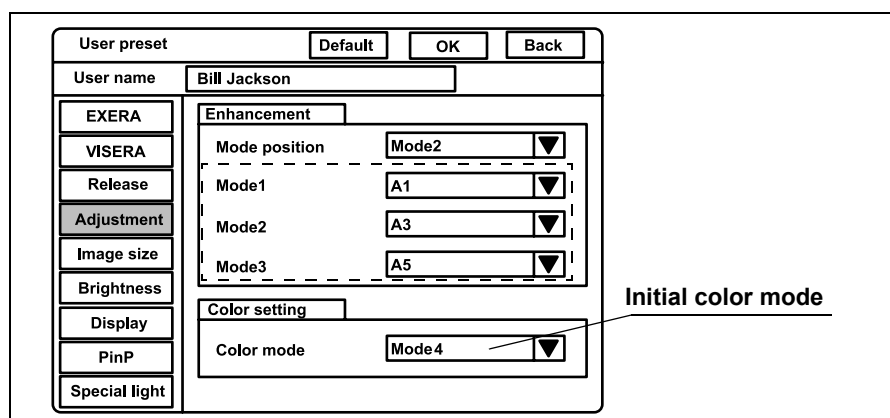

Figure 9.22
1. Click “Enhancement” on the system setup menu. The setting items appear on the right side of the window (see Figure 9.22).
2. Click “▼” of “Color mode” (see Figure 9.22). The color modes appear in the pull-down menu.